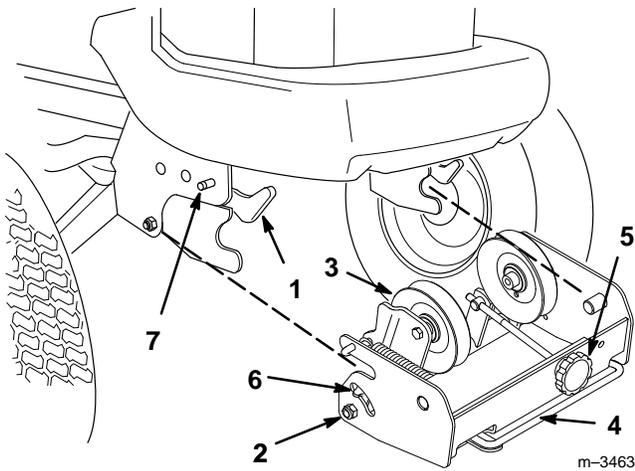

Figure 4
4. Attach the pulley box if it is not already on the tractor. Make sure the latches on the tractor’s front Attach-A-Matic™ are open (Fig. 4). Then slide the pulley box into the Attach-A-Matic™ latches and seat it. Close the latches.